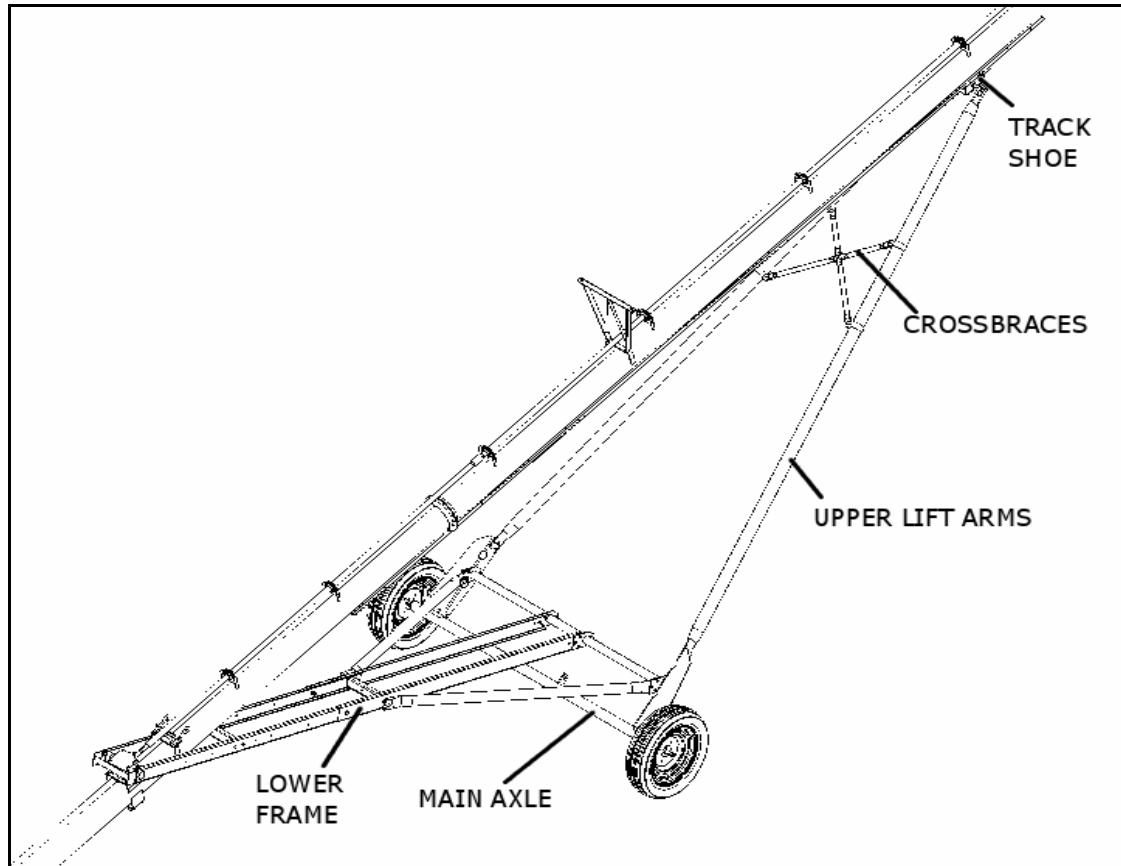

Figure 3.12 Frame Assembly
11. Position the main axle underneath the tube assembly and attach main axle to lower frame with two 5/8" x 1-1/2" bolts and locknuts (Figure 3.12).
- 15. For auger models **841**, **846**, **851**, and **1041** only, install crossbraces on upper frame with four 3" tube clamps and four 7/16 x 1-1/4" bolts and locknuts. Use a 1/2 x 1-1/4" bolts and locknut for the center (where crossmembers intersect)**[singular or plural bolts and locknuts?]**(Figure 3.12).**[would it be better to refer to models by size rather than number?]**